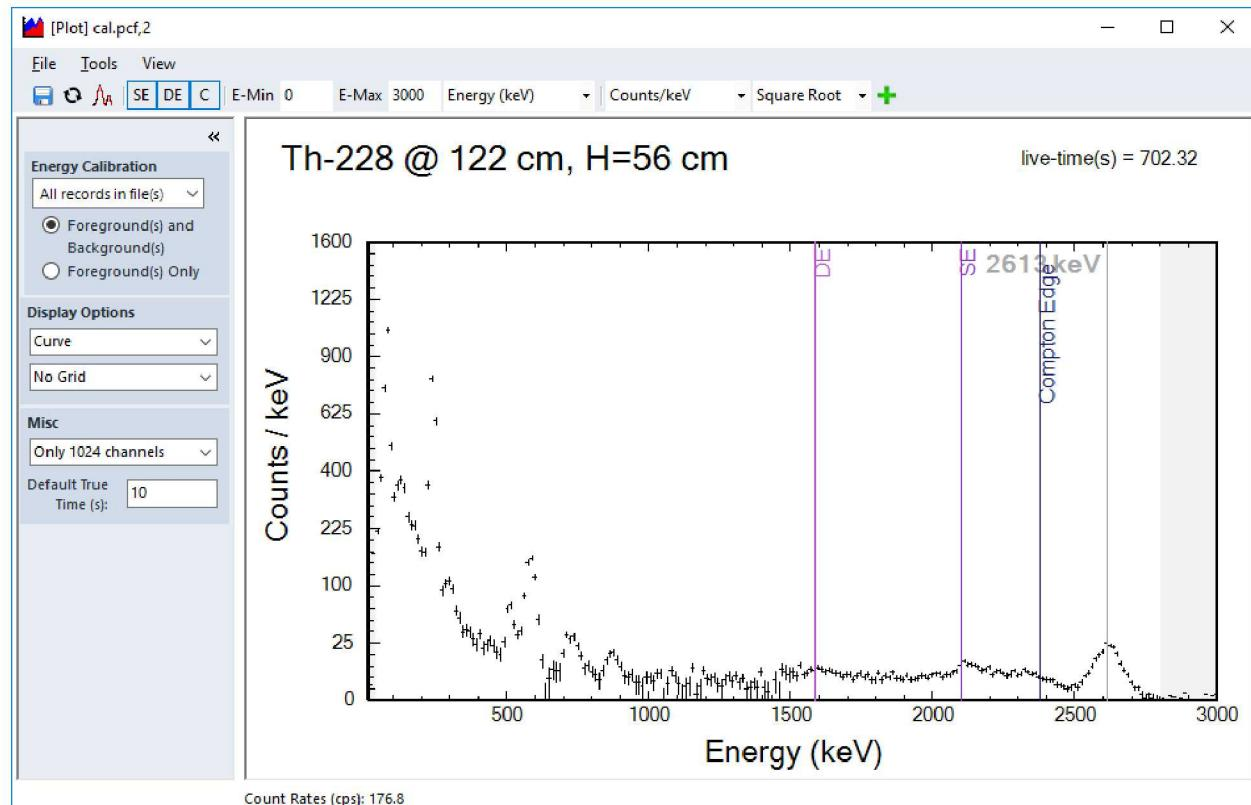

Figure 21. Spectral Features from View Menu
- **SE** Show the single-escape line (see Figure 21)
- **DE** Show the double-escape line (see Figure 21)
- **C** Show the location of the Compton edge (see Figure 21)
The View menu allows users to display common features of a plot using the cursor. When users select any of Single Escape, Double Escape, or Compton Edge, the cursor location on the spectrum is used as a starting point and energies of the specific features are calculated and displayed on the screen (Figure 21).